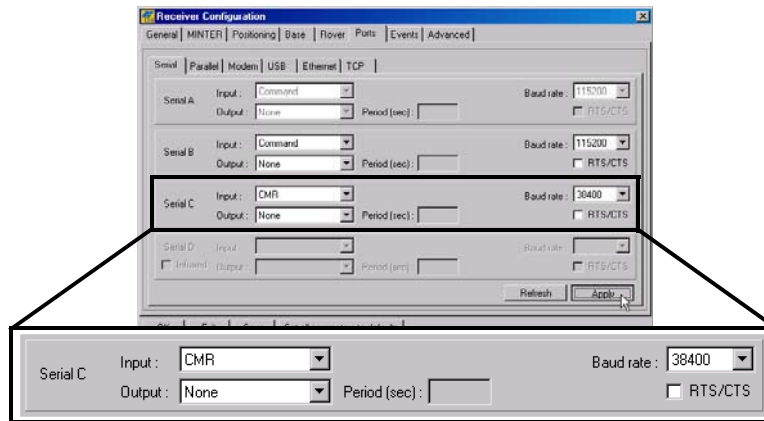

Figure 3-12. Rover Configuration – Ports
6. Click the *Ports* tab and set the following parameters for the serial port (Figure 3-12):